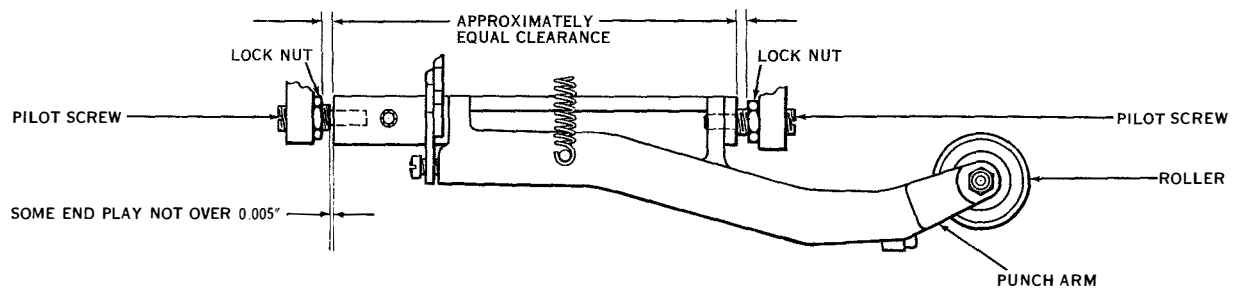

Figure 7-52. Punch Arm Pilot Screws
(51) PUNCH ARM CASTING. (See figure 7-52.)—The clearance between the ends of the punch arm casting and the lock nuts of the pilot screws should be
(See figures 7-52 and 7-58.)